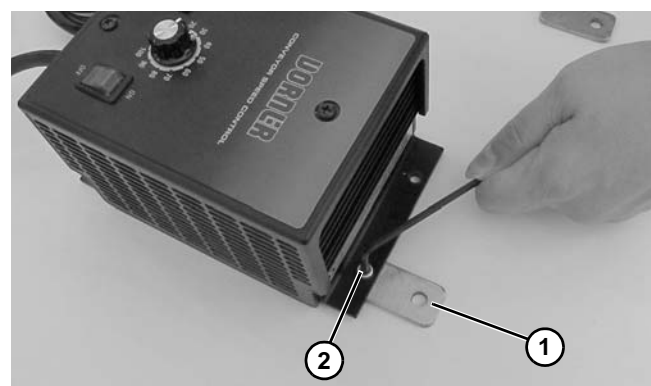

Figure 19
1. Assemble mounting clips (Figure 19, item 1) with screws (Figure 19, item 2) to the top of the controller.